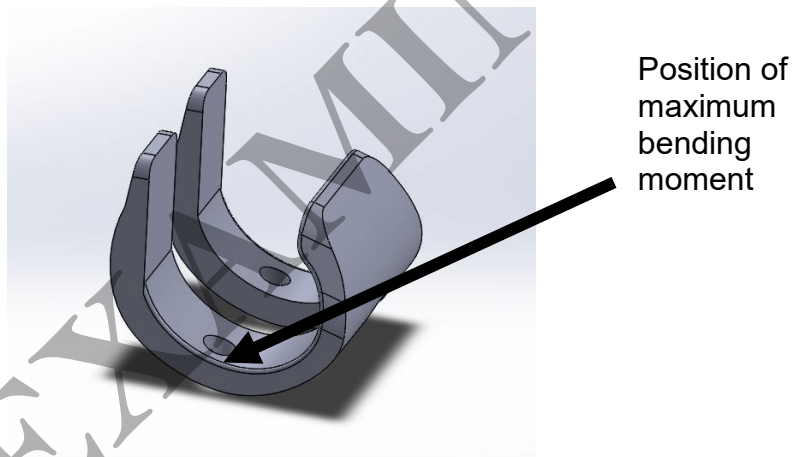

Fig Q5a Schematic of the replacement knee
a) A biomedical replacement knee is undergoing trials and is manufactured from a titanium alloy as shown in Fig Q5a with a Young's modulus of 104 GPa and $\nu = 0.3$ is to be evaluated for future use.